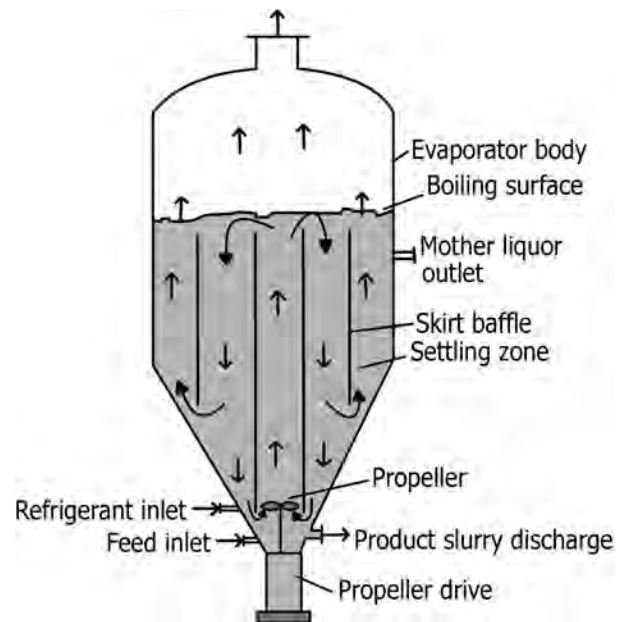

FIGURE 18.5 Direct contact refrigeration DTB crystallizer.
- A refrigerant is mixed with the circulating magma within the crystallizer body where it absorbs heat and is vaporized. Refrigerant vapor leaves the surface of the crystallizer similar to water vapor in a conventional evaporative crystallizer. The refrigerant vapor is then compressed, condensed, and recirculated to the crystallizer to maintain continuous operation. Figure 18.5 illustrates direct contact refrigeration DTB crystallizer.